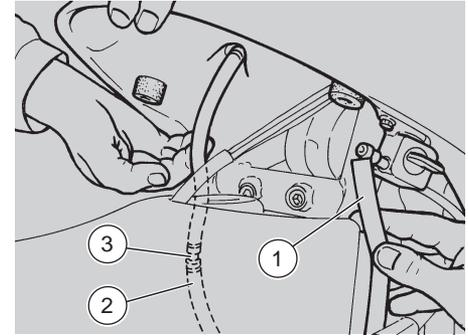

Fig. 38
- ◆ Disconnect the fuel pipe (1-Fig. 38).
- ◆ Disconnect the fuel breather pipe (2-Fig. 38) from the connection point (3-Fig. 38).